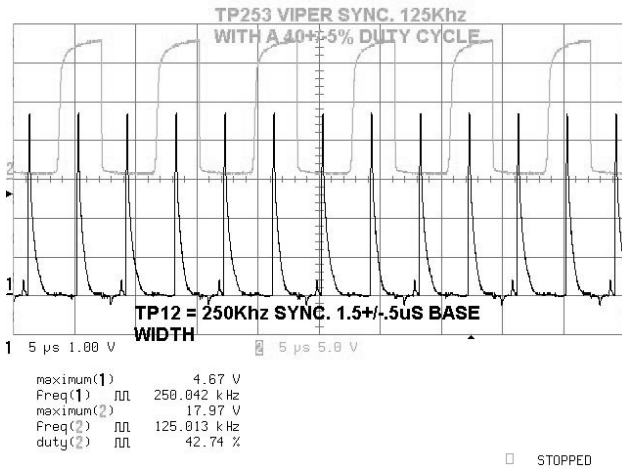

Figure 4.12 Power Supply Clock
1. Using an oscilloscope check power supply clocks at TP-253 and TP-12, as shown in Figure 4.12. All measurements are with respect to SMPS reference.